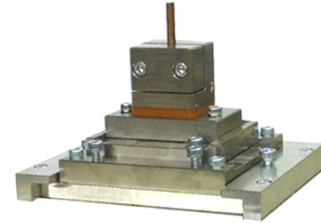

Fig. 1
- (1) Remove the safety cover.
- (2) Adjust the depressurization knob of the regulator to make the air pressure 0 MPa.
- (3) Place a weldment (hereinafter referred to as workpiece) or something of the same thickness (gauge, etc.) between electrodes.
- (4) Lower the pressure follow-up mechanism by self-weight and make the end of upper electrode contact with the welded surface of workpiece. (Refer to Figure 1.)
XYθ holder (precision type lower electrode holder with a water cooling hole) (Refer to Fig. 1.)	Like the slide holder, this holder is used at direct welding. The XYθ (vertical/horizontal/inclination) directions can be finely adjusted. As an electrode diameter, φ5, φ8 or φ12 can be selected.